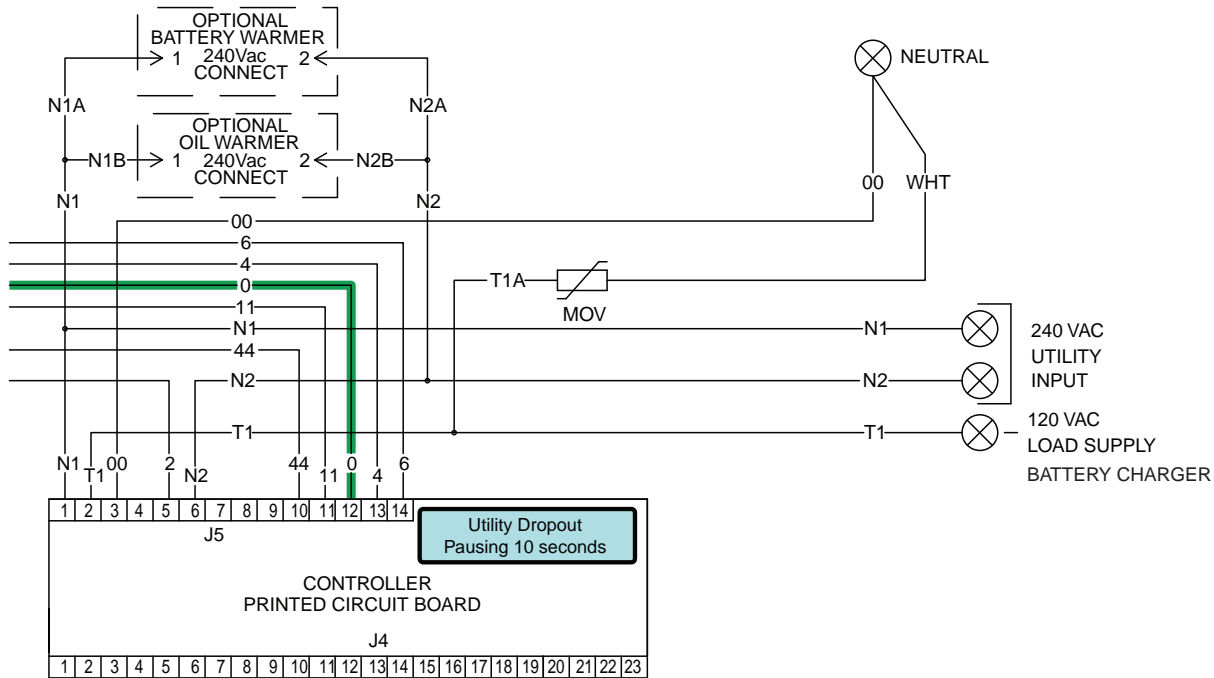

Figure 95.
- In Figure 95, the 10-second timer is still timing and engine cranking has not yet begun.